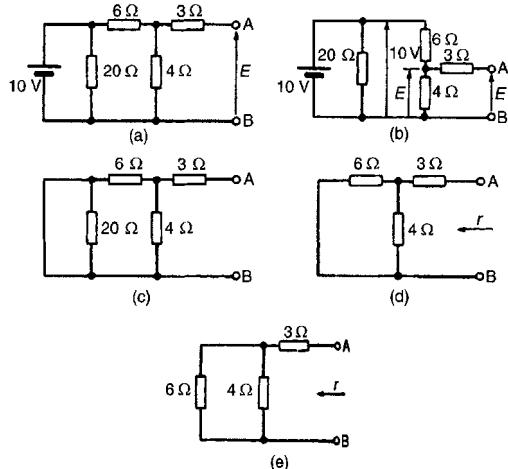

Figure 13.32
- (v) For the circuit shown in Fig. 13.32(a), the 3Ω resistor carries no current and the p.d. across the 20Ω resistor is 10V. Redrawing the circuit gives Fig. 13.32(b), from which
- (vi) If the 10V battery in Fig. 13.32(a) is removed and replaced by a short-circuit, as shown in Fig. 13.32(c), then the 20Ω resistor may be removed. The reason for this is that a short-circuit has zero resistance, and 20Ω in parallel with zero ohms gives an equivalent resistance of $(20 \times 0)/(20 + 0)$ i.e. 0Ω . The circuit
is then as shown in Fig. 13.32(d), which is redrawn in Fig. 13.32(e). From Fig. 13.32(e), the equivalent resistance across AB,